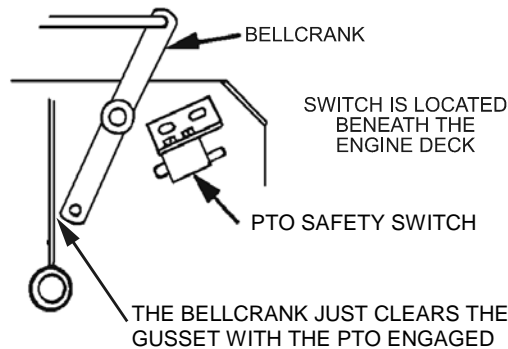
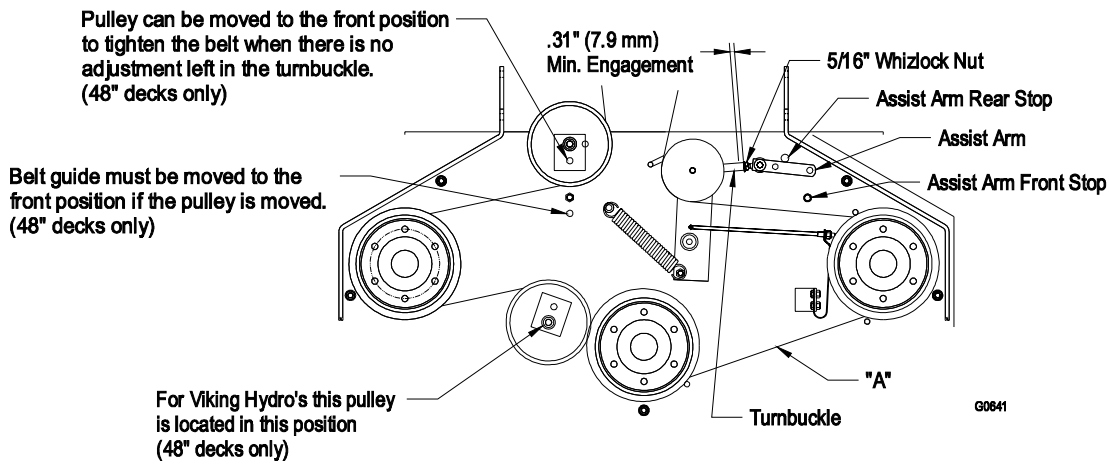

FIGURE 6
FIGURE 7
- b) With PTO engaged (lever pulled up, adjust the linkage length to where the lower end of the bellcrank just clears the axle support gusset (See Figure 6). Make sure the assist arm is against the rear assist arm stop on the deck (See Figure 7). Push the lever down to the disengaged position. The assist arm should contact the front assist arm stop on the deck. If it does not contact, readjust so that the bellcrank is closer to the gusset.
- d) Belt must be tight enough so it does not slip during heavy loads while cutting grass. Over-tensioning will reduce belt and spindle bearing life. To adjust belt tension, loosen the 5/16" whizlock nut on turnbuckle and rotate the turn buckle; rotate turnbuckle toward rear of mower to tighten, and toward front of mower to loosen belt tension (See Figure 7).
For 48" Decks: If there is no adjustment left in the turnbuckle and the belt is still loose, the rear idler pulley can be repositioned in the front hole (See Figure 7). The belt guide located next to the pulley must also be repositioned in the front hole when the pulley is moved. The turnbuckle will need to be readjusted.
- e) Proper belt tension will require about 10 lbs. (44.5 Nt.) side pull on the belt, halfway between pulleys, to deflect belt 1/2" (1.3 cm). (See Figure 7, Point A).